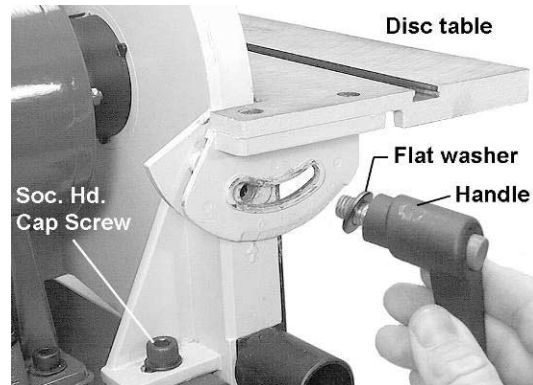

Figure 4
2. Install a flat washer onto each of the two remaining handles. Insert the handle into the holes through the left and right trunnions. See Figure 4.
3. The gap between the sanding disc and the disc table should be a maximum of 1/16". If it is larger than this, loosen the two socket head cap screws on the disc guard (one is shown in Figure 4) and slide the disc guard to achieve this gap measurement.